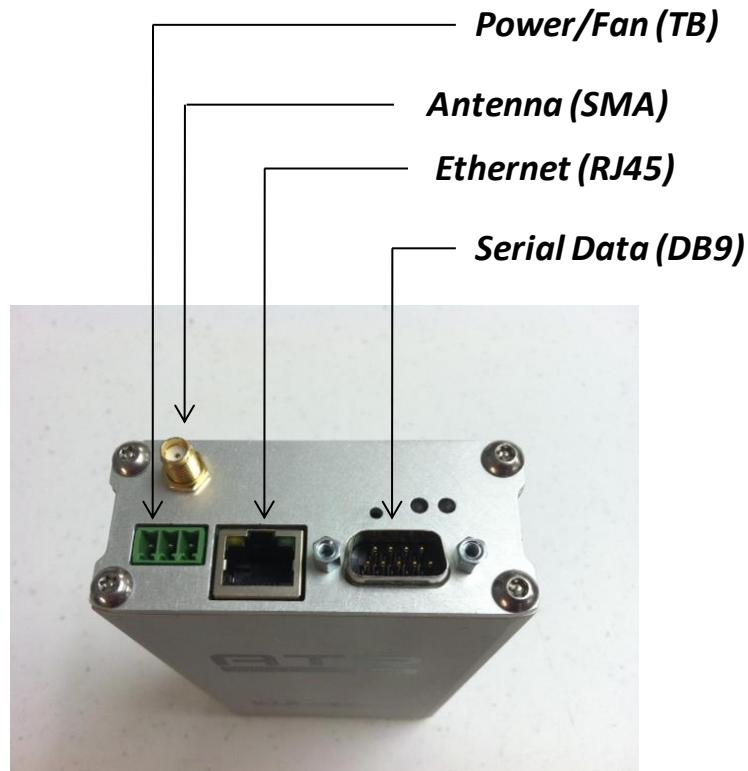

Figure 2: ATR Connections
3. Locate the power source. The ATR requires a 9-24 VDC input and draws about 2.5 A (at 12 VDC) when transmitting. Power is supplied via the Green Terminal Block at the end of the unit (See Figure 2). The mating terminal block connector is supplied with the ATR and can be used to connect to an existing power supply. Alternately, a separate power supply (12 or 24 VDC) can be purchased directly from a OEM supplier provided it meets the FCC or other regulatory requirements when powering the ATR.